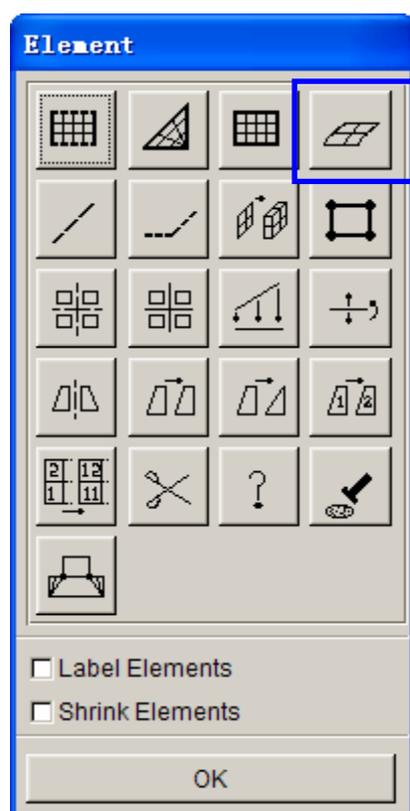

Figure 5.12 Element dialog box
3. Select **Surface Mesh** icon from **ELEMENT** dialog box shown in Figure 5.12.